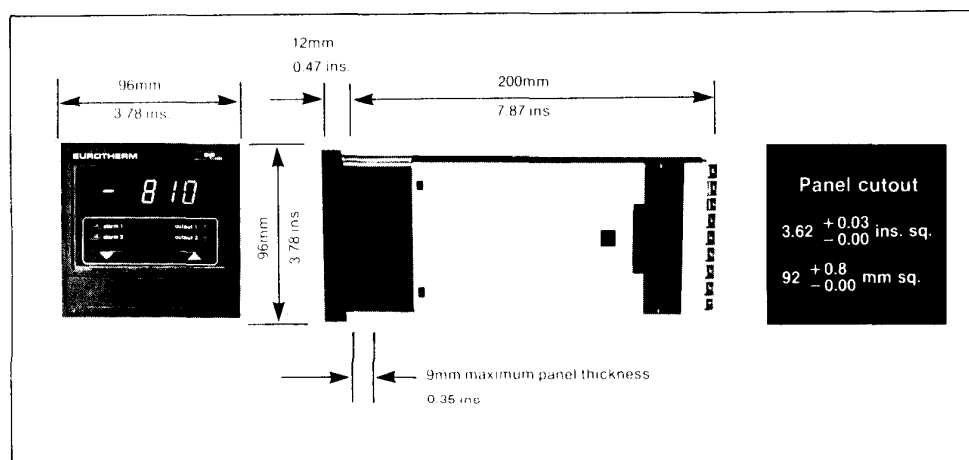

Figure 4-1: Instrument Mounting Dimensions
The Temperature Controller is designed for fixed panel mounting in a 3.62 inch square (92mm) cutout. The Controller is retained by two (2) mounting clips. See figure 4.1 for instrument dimensions. A 30 position rear mounted screw terminal block allows interwiring for standard and optional instrument configurations.